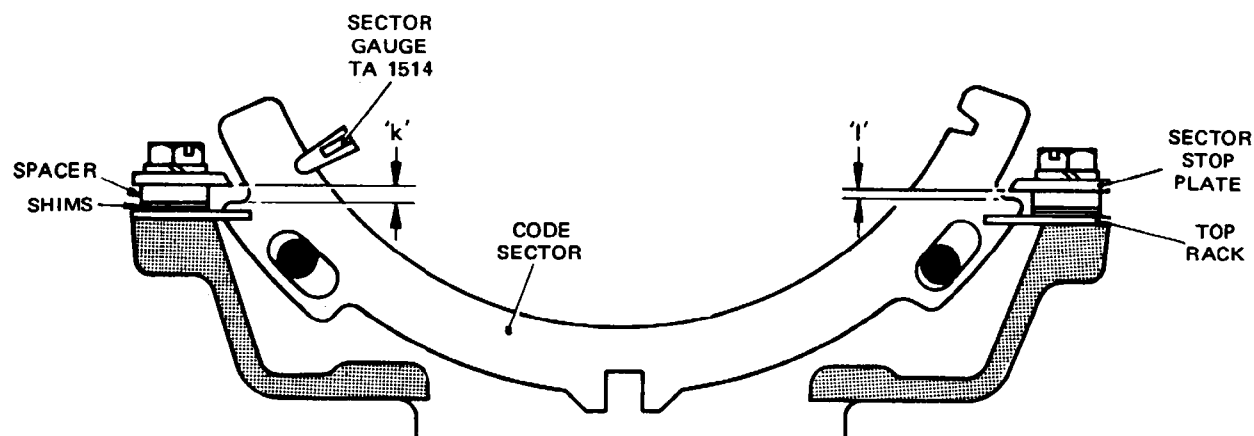

Fig. 4.11 SECTOR STOPS
- 13.1 Set the code sectors in space and mark positions so that a single-width slot in each is in a common line across the sectors, and press sector gauge TA 1514 lightly into these slots, as shown in Fig. 4.11, to hold the alignment. Where the standard code is cut, use the second slot from the left-hand side, where all code sectors except number 4 are set to the mark position.